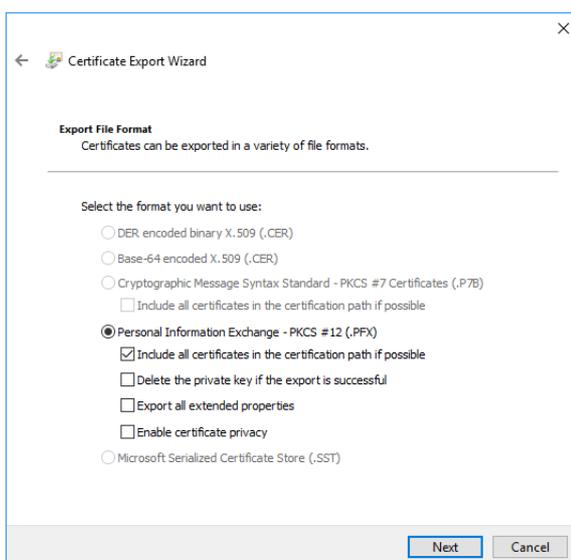

Figure 2-42. Selecting file format for private key
7. Select the file format, see Figure 2-42.